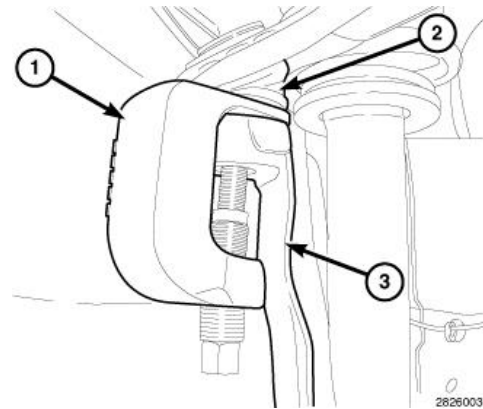

Figure 13 – Ball Joint Press 4150A
- 25. Separate the upper ball joints (2) from the knuckles (3) using **Press, Ball Joint C-4150A** (1) (Figure 13).